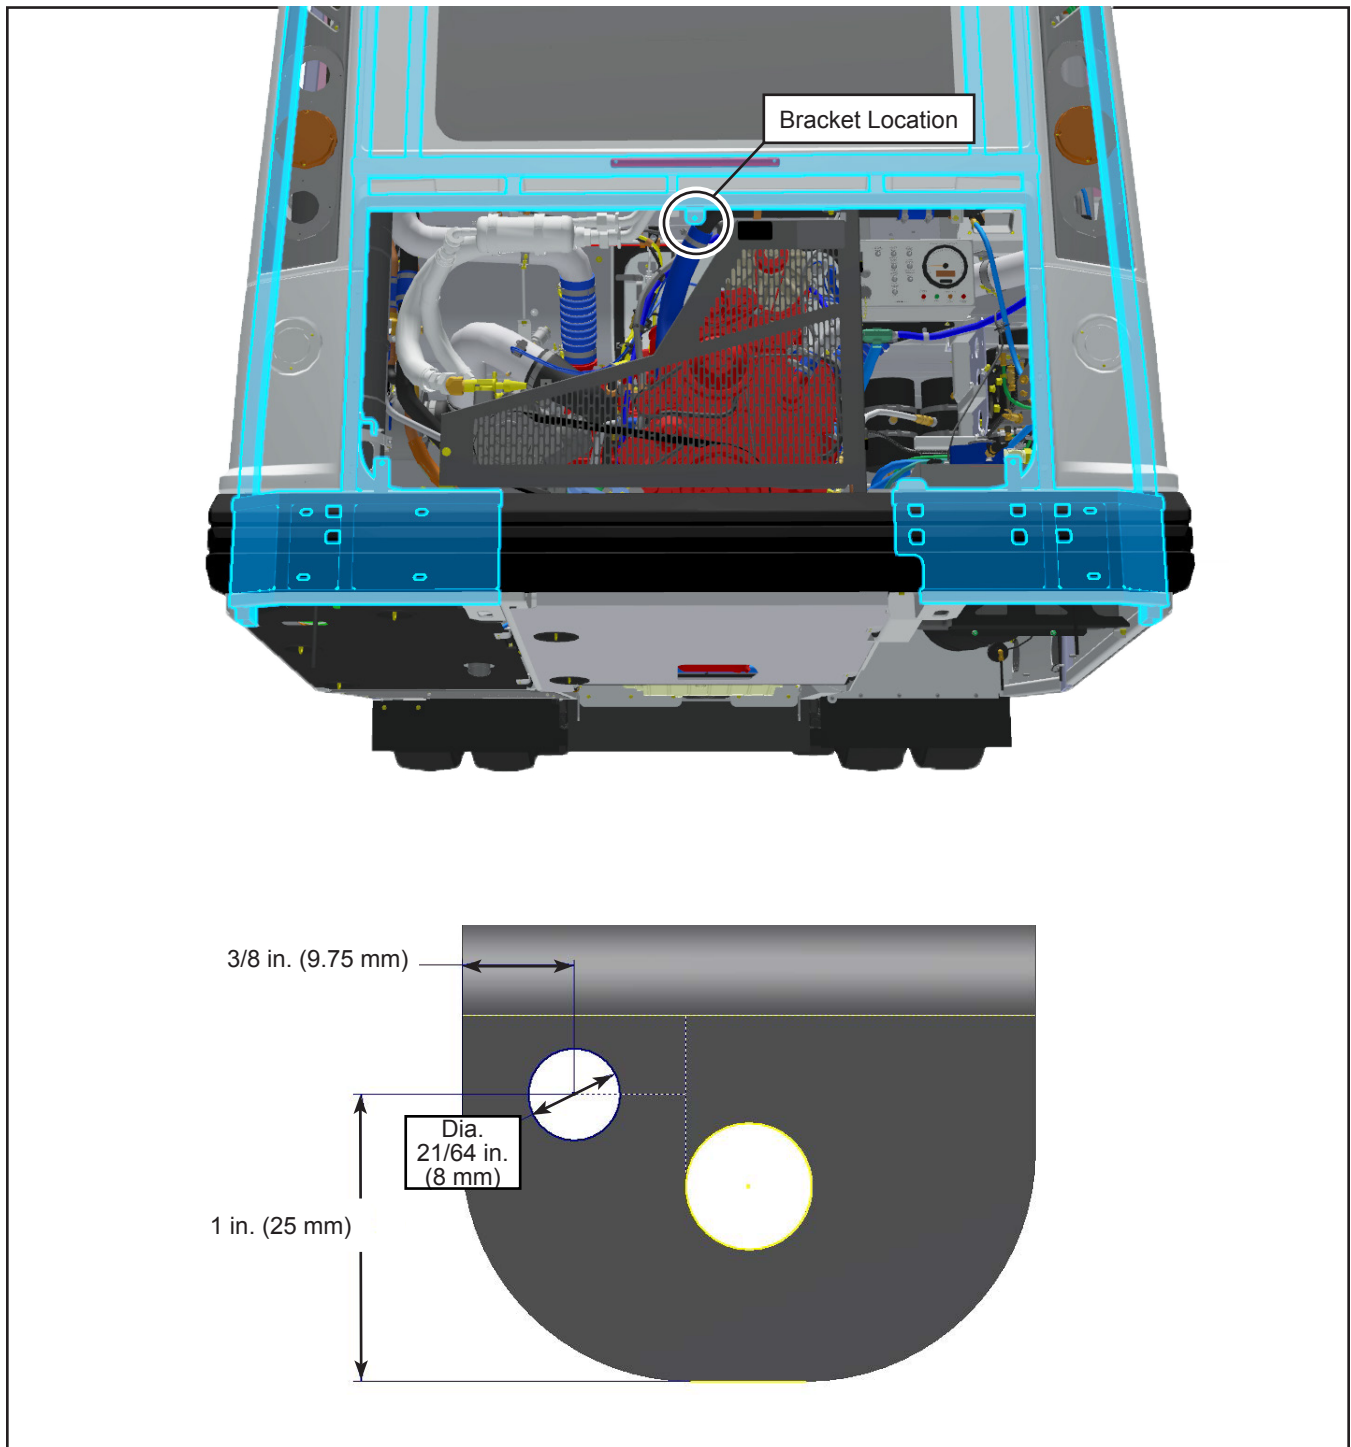

Figure 19 - Drill 8 mm (21/64 in.) for the Ground
- 1.35. Remove the paint and clean the surface for a proper ground contact (see Figures 19 and Figure 21).
- 1.40. Connect wire 64-2027 (10 BK) to the vehicle structure. Make sure there is no paint between the ground and the structure (see Figures 19 and Figure 21).